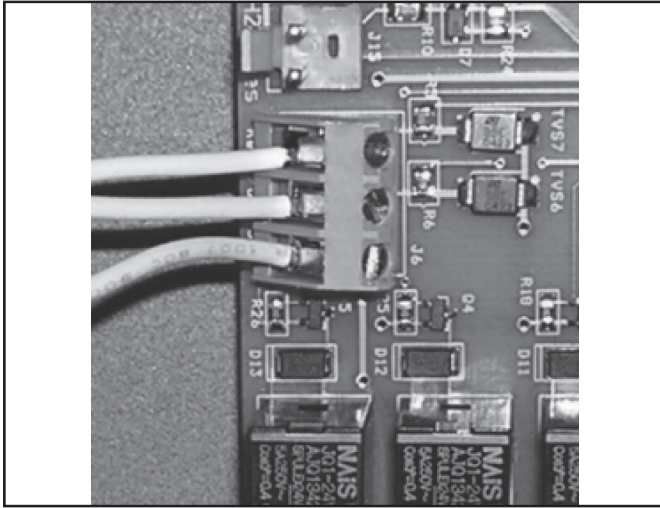

Figure 10a. Remote Pool-Off-Spa Connection (3-Wire Connection)
4. Connect the wiring from the pool/spa control system to the heat pump remote control terminal (see Figure 10a).